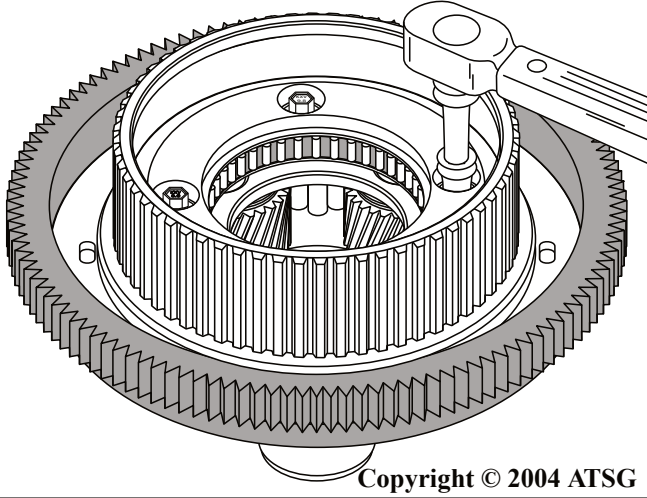

Figure 105
5. If it was necessary to replace the overdrive planetary carrier or the coast clutch hub, torque the **new** bolts as shown in Figure 105.